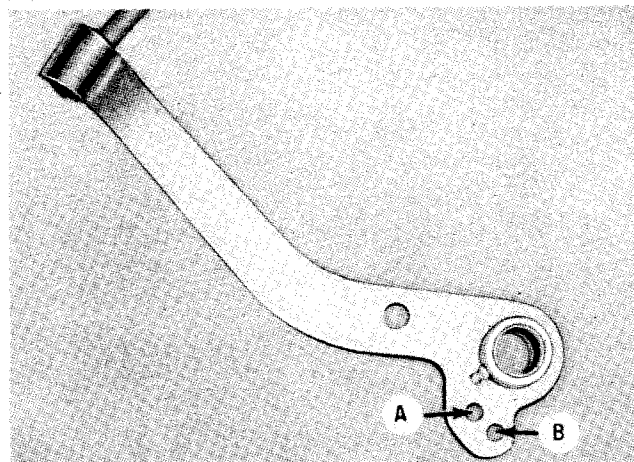

FIG. 2
The change in linkage is shown in Fig. 2, which shows holes A and B in the brake pedal arm. On 1952 Commander (3H) models, hole A is used for the new master cylinder-to-brake pedal rod, Part No. 531865. Champion (12G) models use hole B for the master cylinder-to-brake pedal rod connection.
- The master cylinder-to-brake pedal rod is connected to the UPPER hole (A, Fig. 2) on all Commander (3H) models and to the LOWER hole (B, Fig. 2) on Champion (12G) models.